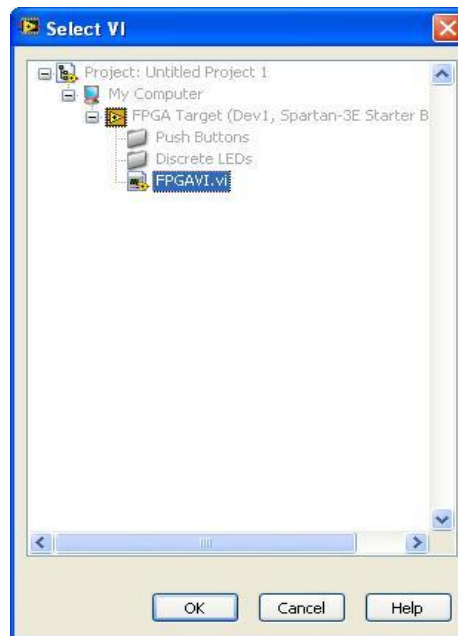

Figure 15: Select FPGA VI Reference
3. Right-click the Open FPGA VI Reference function and click **Select VI** to access the FPGA VI. In the **Select VI** dialog box, select FPGAVI, as shown in Figure 15. Click the **OK** button.